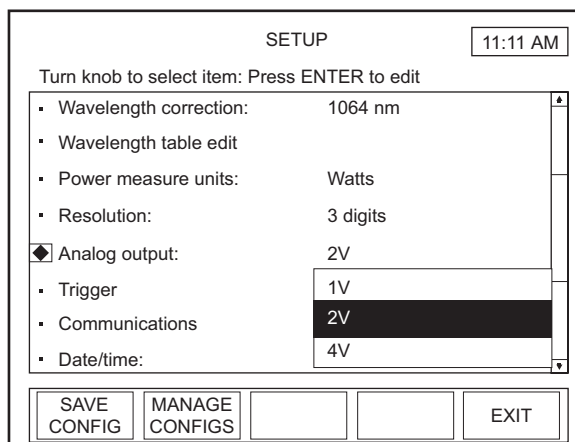

Figure 61. SETUP: Analog Output
2. Press the ENTER/SET button to display a dropdown list of available voltages (similar to the list shown in Figure 61, above).